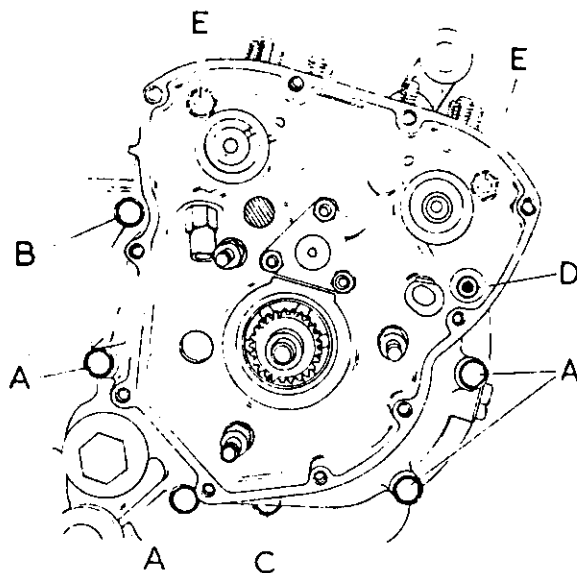

FIG. B.60. Crankcase screws, timing-side.
To remove timing-side crankcase remove the four bolts (A) two at the rear of the crankcase, and two at the front. The single bolt (B) at the rear, the single bolt (C) at the bottom of the case and the single socket head screw (D) inside the timing case in the top right-hand corner. Also remove the nuts and washers from the studs (E) each side of the crankcase mouth behind the timing case (see Fig. B.60).